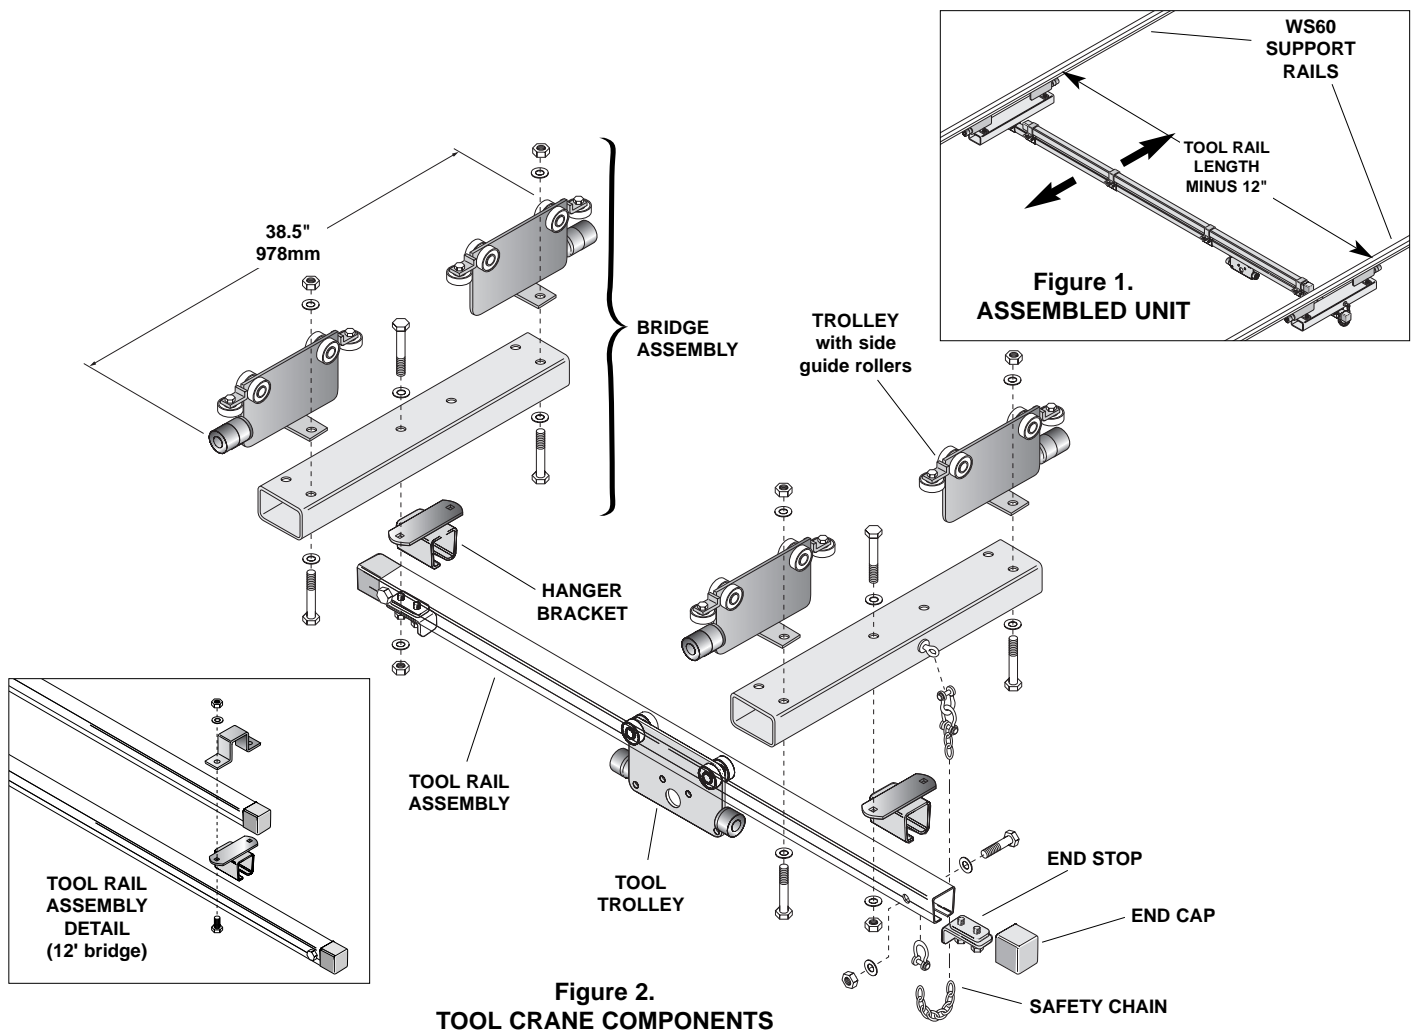

Figure 2.
- Slide bridge assembly trolleys into support rails. Install stops omitted in step 1. (Figure 2)
- Slide tool rail thru hanger brackets on under side of bridge assemblies. Install safety chains. (Figure 2)